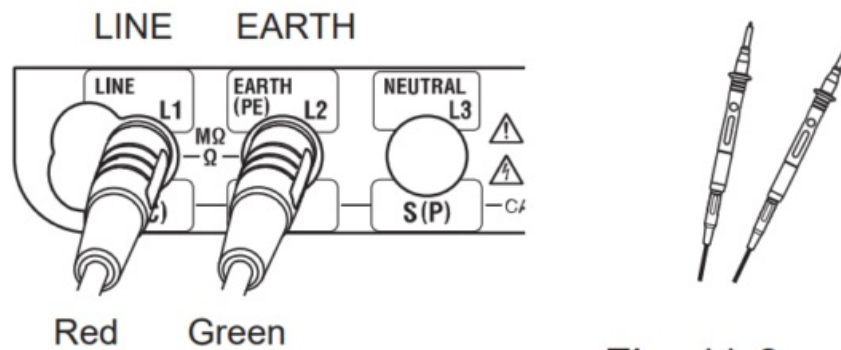

Fig. 11-9
3. Connect the test leads to the instrument as illustrated below. (Fig. 11-9)